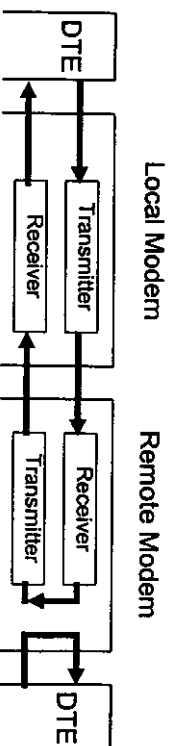

Figure 17. Remote Digital Loopback Test
- Remote Digital Loopback (RDL) Test** - This test checks the interface and connection of the local modem with its DTE, the interfaces between the local and remote modems, and the local and remote modems themselves (Figure 17). The remote modem returns data received from the line and executes a Local Digital Loopback to the remote DTE.